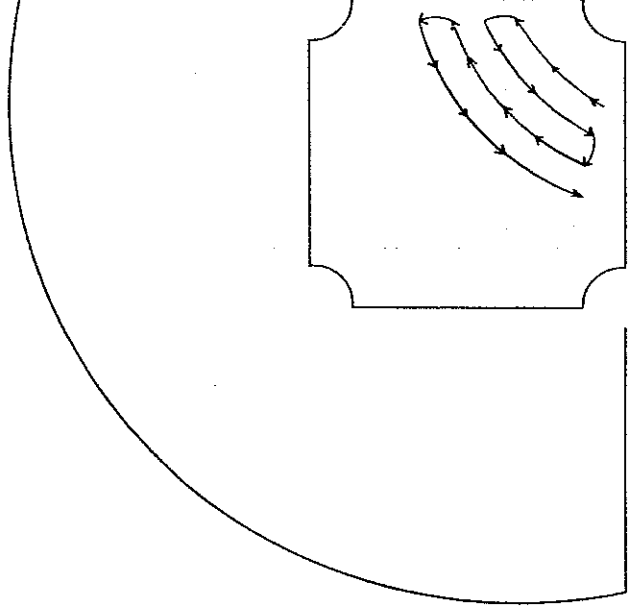

Figure 12.
- d. Half circle infield part of home plate. (Figure 12.)